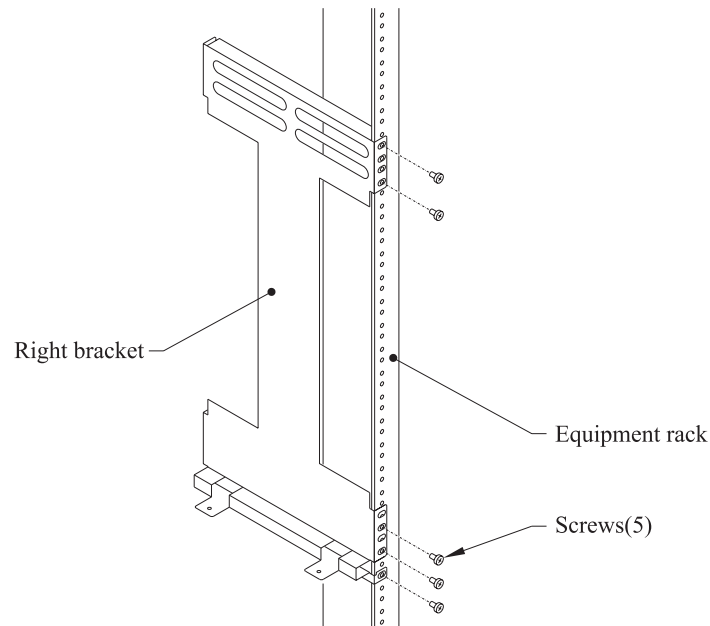

Figure 4. Fastening the Right Bracket to the Rack
1. It is recommended that you mark on the equipment rack exactly where you want the top of the two mounting brackets to go on the device in order to make sure that they are level with each other (using a level if necessary). Once you have determined the desired location, fasten the right bracket to the rack using your own screws or clips, as shown in Figure 4.